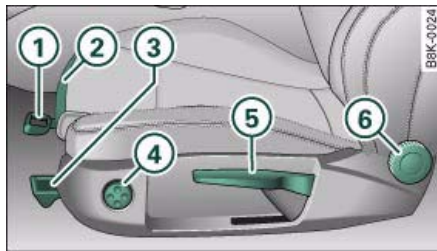

Fig. 72 Adjuster controls on driver's seat
- Lift the lever ① ⇒ fig. 72 and move the seat to the desired position.
- Then release the lever ① and move the seat further until the catch engages.
- Pull the lever ③ ⇒ fig. 72 up or down repeatedly (i.e. pump the lever).
- Pull the lever (5) ⇒ page 70, fig. 72 up or down repeatedly (i.e. pump the lever).
- Turn the adjuster wheel (6) ⇒ page 70, fig. 72 to set the angle of the backrest as required.